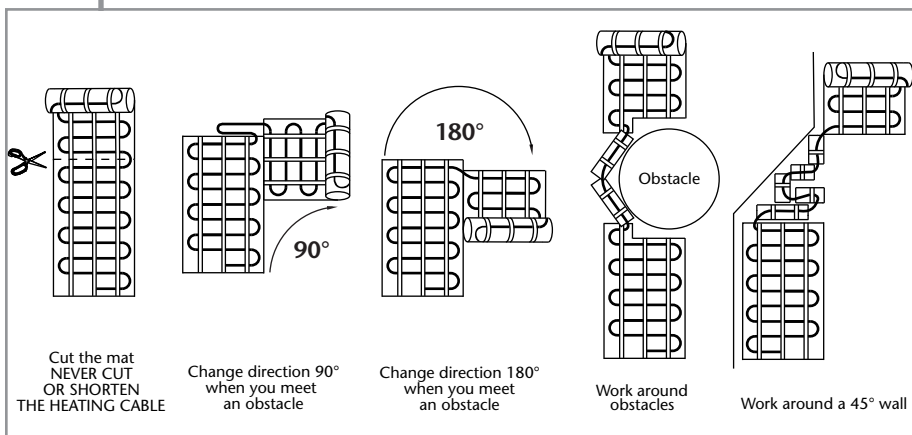

Fig. 4.4.1
- When the **Thermat** roll meets a wall or obstacle, simply cut the mat and pivot it in another direction (fig. 4.4.1);